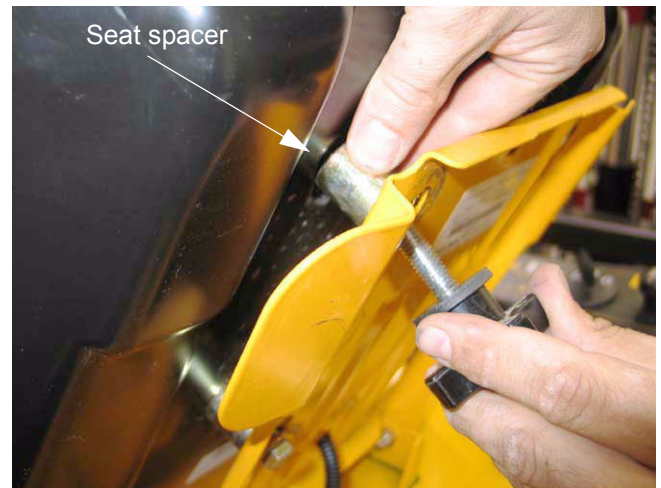

Figure 9.3
- 9.3. Remove both wing knobs from under seat. Keep track of washers and spacers. See Figure 9.3.